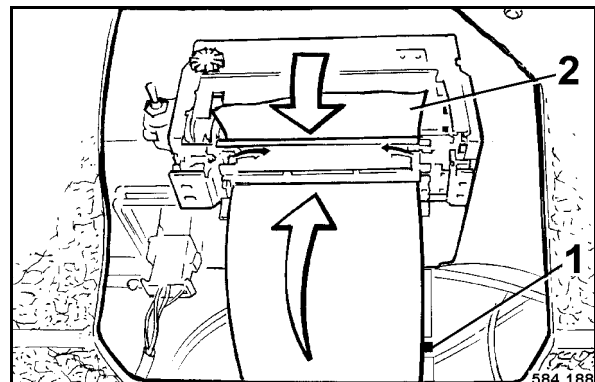

Fig. 105
- Remove shaft 1 (Fig. 105) with the rest of the paper roll (2).